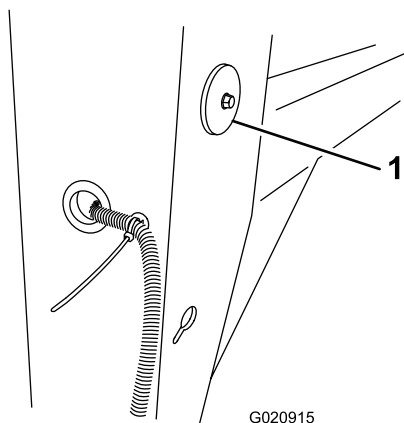

Figure 15
1. Align the hole in a reflector to the hole in 1 side of the front post on the machine (Figure 15).